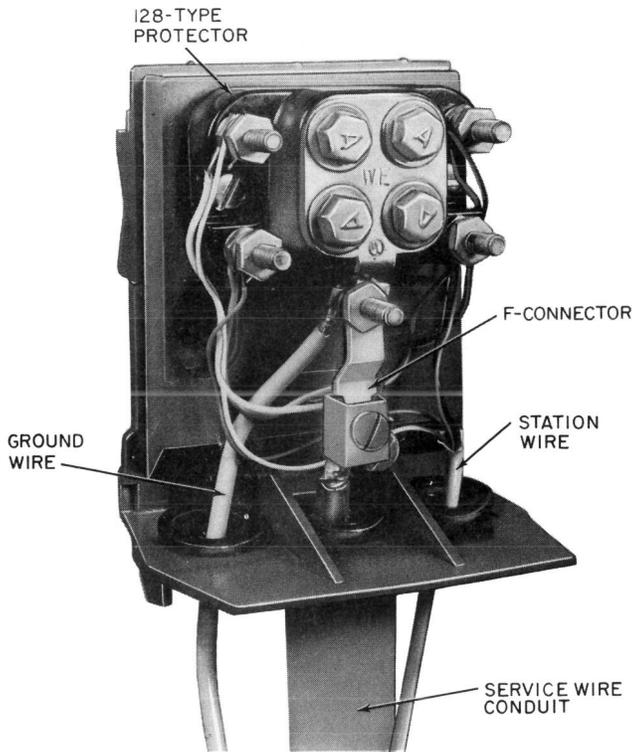

Fig. 28—Typical Protector Installation Using B Customer Service Closure
3.35 The B, C, or D closure can be mounted on any suitable flat surface, PMP, or a vertical or horizontal pipe. An adapter at the bottom of the base allows it to be attached to service wire conduit. A typical installation is shown in Fig. 28.♦